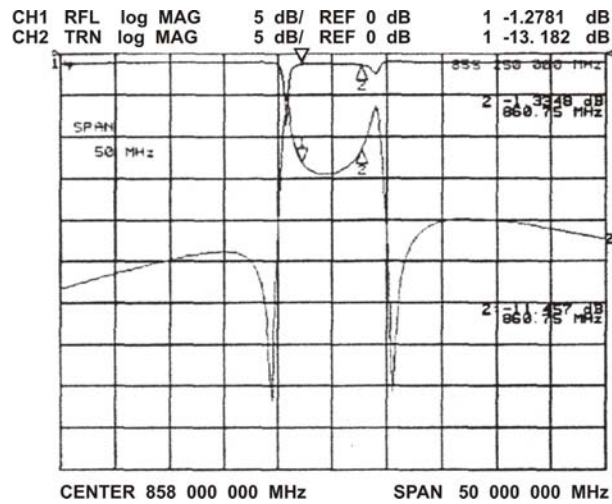

Fig. 2
4. Act on the tuning rods **1** and **2** until the curve of the band-pass appears in the centre of the screen and adjust it by means of the coupling **3** to obtain a width of about 10MHz (Fig. 2). The tuning **2**, due to the elliptical system according to which the filter has been designed, will compose the attenuation of the notch as well as the curve of the band-pass.